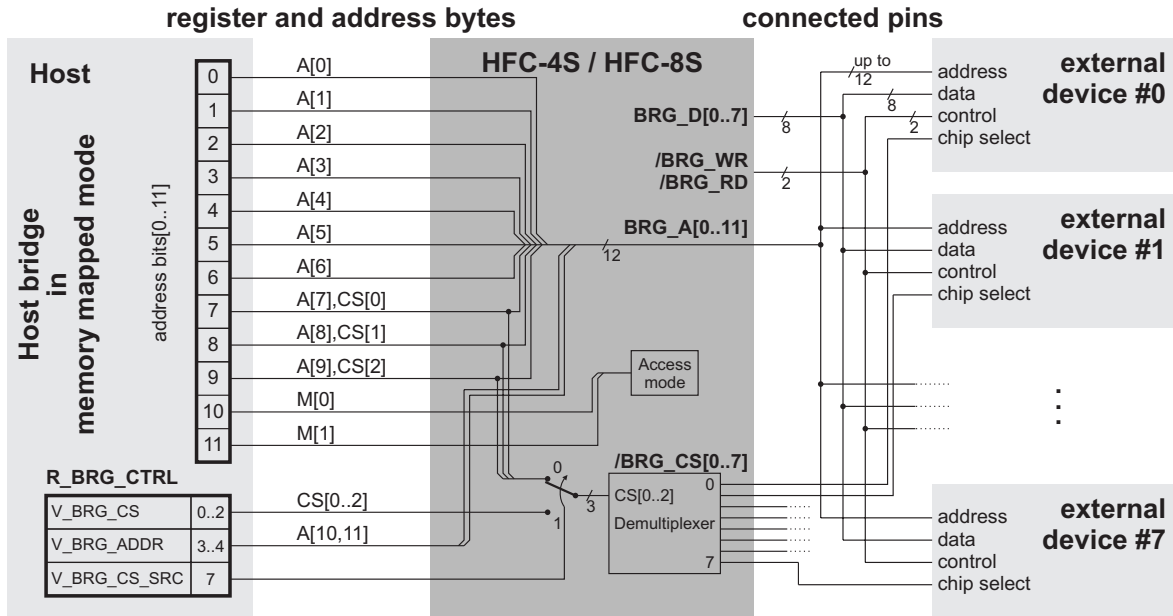

Figure 11.3: Host bridge structure in memory mapped mode
In memory mapped mode the control register `R_BRG_CTRL` can be used to perform read and write accesses with a large address space. External devices with up to 10 address lines do not require this register. If `R_BRG_CTRL` is not used, the exact number of available address lines depends on the number of external devices. An overview of this functionality is given in Figure 11.3.
1. If the external devices have not more than 7 address lines, the register `R_BRG_CTRL` is not necessary for bridge accesses. The bridge operation can be performed with 12 address bits as shown in Figure 11.3. Up to 8 external devices can be connected to the HFC-4S/8S.